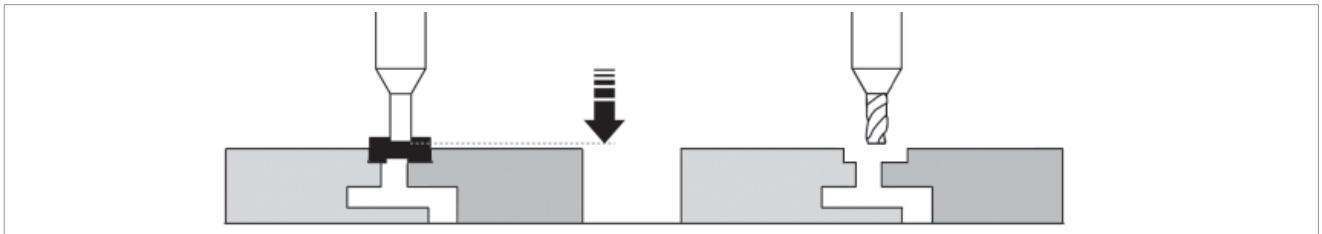
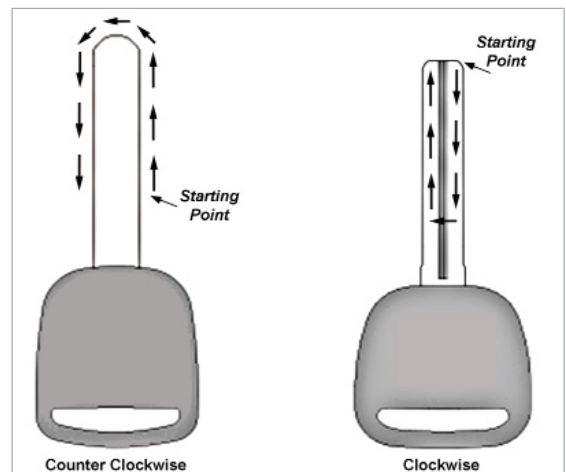

Fig. 24
Fig. 26
- 2) Use lever (J) to lower the vertical carriage, without exerting too much pressure, until the tracer rests in the bottom of the cut on the original key (Fig. 24) and secure the spindle at this height by means of knob (R).
- 4) Start the cutting operation by activating switch (Q).
- 5) Carry out cuts using only the left-hand lever (C) as shown in Fig. 26 below.